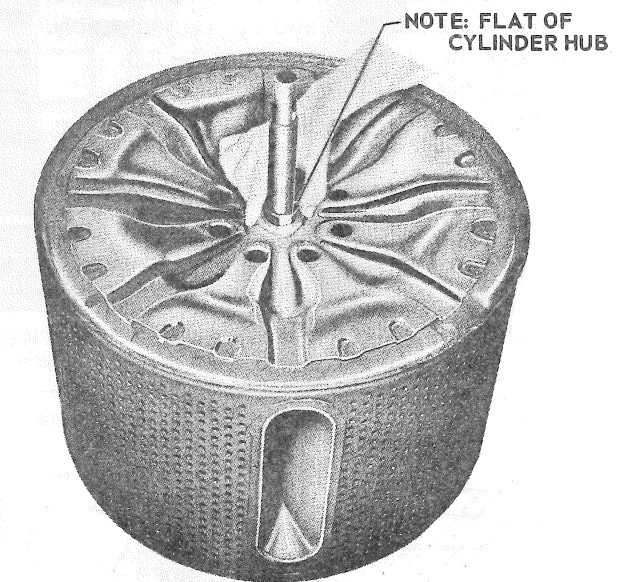

Figure 4-10 Seal Face Installation
4. Install a new seal face. (See Figure 4-10)